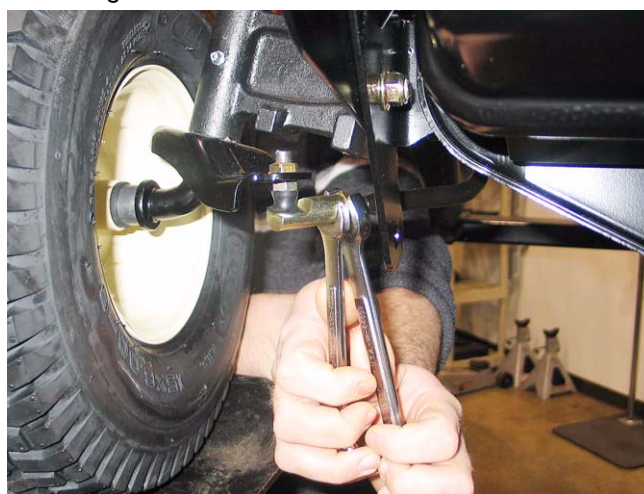

Figure 36.9
- 36.9. Loosen the jam nut at the rear of the right ball joint that secures the ball joint to the drag link using a $1/2$ " wrench and an $11/16$ " wrench. See Figure 36.9.